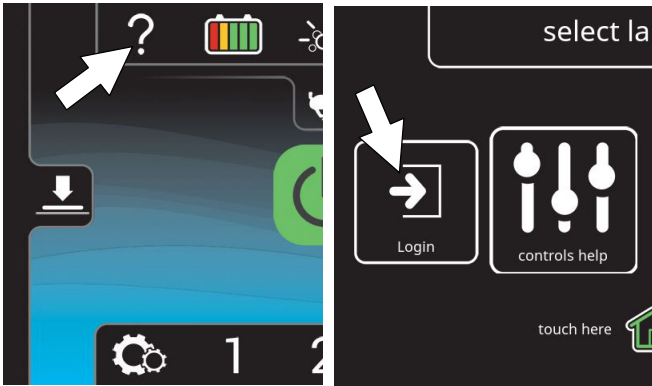

FIG. 165
2. Press the help button and log into the machine as supervisor mode (Figure 165). See *Entering the Supervisor Mode*.